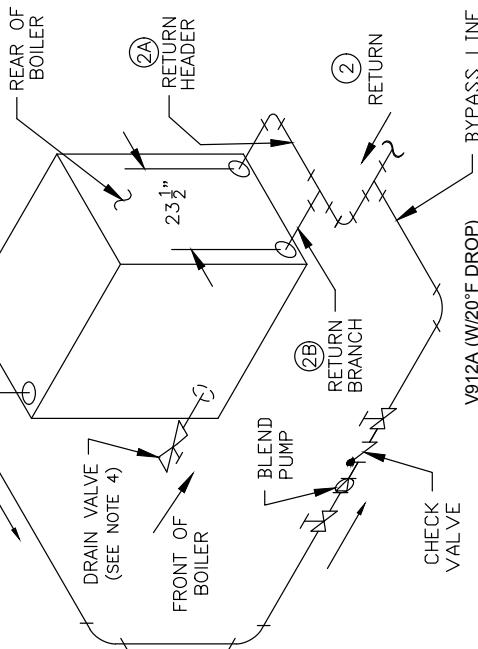

Figure 25: V9A Series Minimum Piping Details, Bypass with Blend Pump - Water Boiler
- ii. If minimum return water temperature cannot be maintained at 135°F or the temperature differential across the system varies, a blend pump is recommended as a minimum to help protect the boiler from flue gas condensation and/or thermal shock. See piping details in Figure 25. Primary secondary piping with a by-pass is an alternate to the blend pump method and is shown in Figure 26.